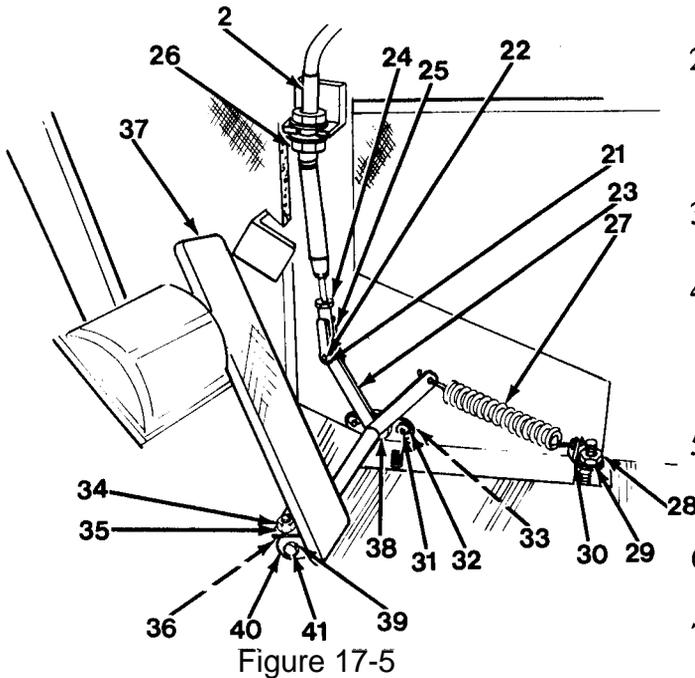
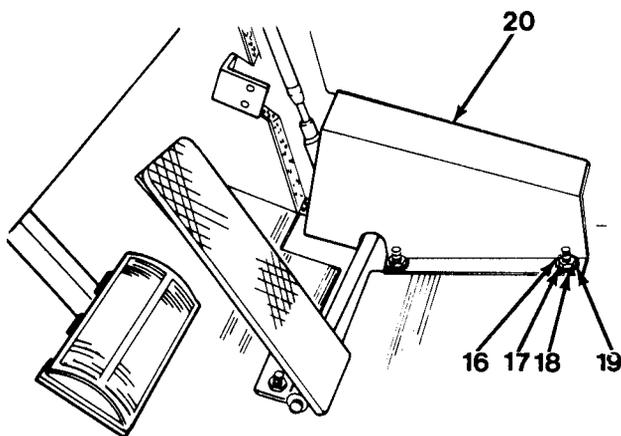

Figure 17-5
Figure 17-4
2. Install pedal (37), bushing (41), bracket (40) and two roll pins (39) on bell crank (23, Figure 17-5).
3. Install bushing (38).
4. Install bell crank (23) and pedal (37) as an assembly and secure with two cap screws (36), washers (35) and nuts (34).
5. Install two cap screws (33), washers (32) and nuts (31).
6. Install hook (30), washer (29) and nut (28).
7. Install spring (27).
8. Install throttle cable (2) and push through opening in cab. Position throttle cable (2) in weldment and tighten nut (26) to secure.
9. Install end yoke (25), if removed, and secure with nut (24). Install to distance as marked.
10. Install pin (22) and cotter pin (21) to attach end yoke (25) and bell crank (23).
11. Install cover (20), two washers (19), lock-washers (18), washers (17) and nuts (16, Figure 17-4).